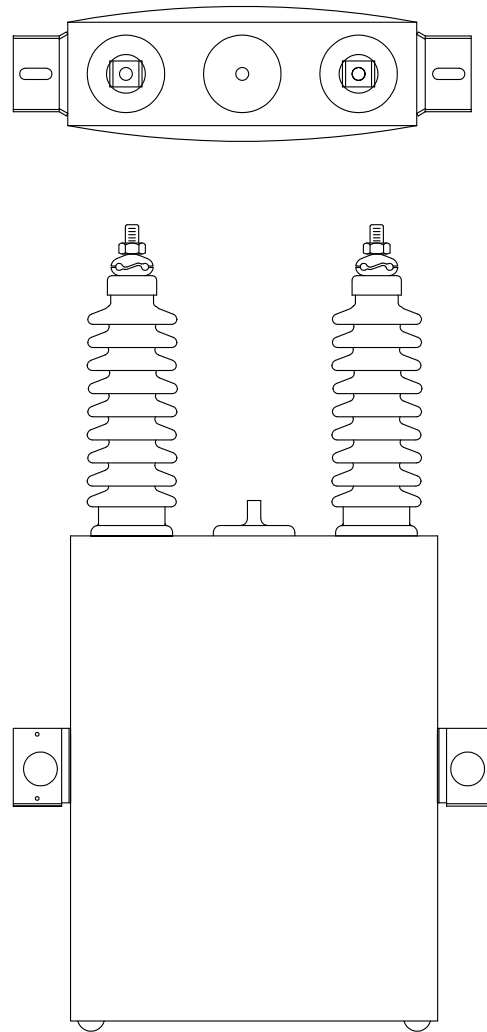

Figure 4. Capacitor unit
1. Using the furnished hardware, attach one end of a brace to the slot located under the capacitor mounting angle on the capacitor bank frame as shown in Figure 4, but do not tighten the nut on the bolt.